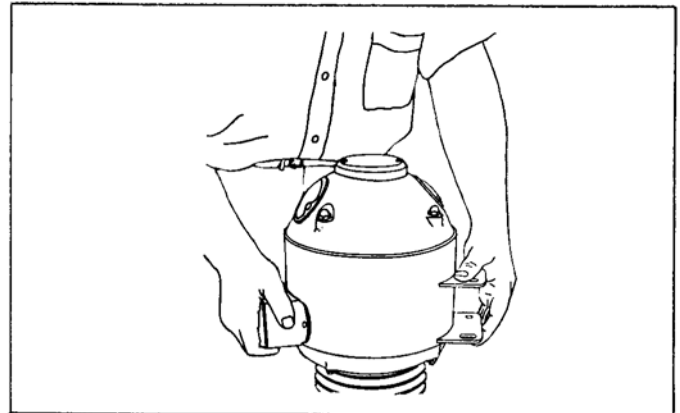

Fig. 3.
4. When lifting the motor, hold it as shown in Fig. 3.